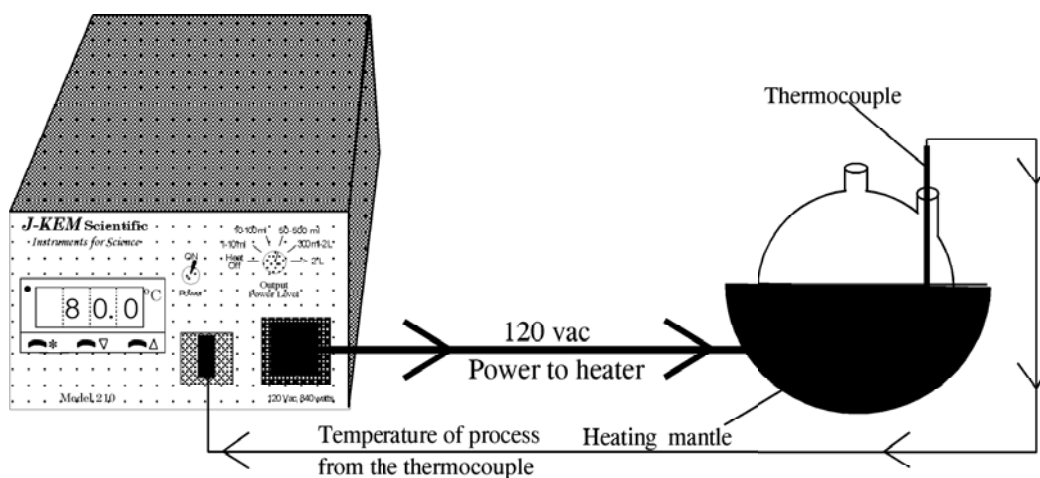

Figure 2
3.9 Do's and Don'ts When Using Your Controller. The controller, heater and thermocouple form a closed loop feedback system (see Fig. 2 in Section 4.1). When the controller is connected to a heater, the feedback loop should not be broken at any point.